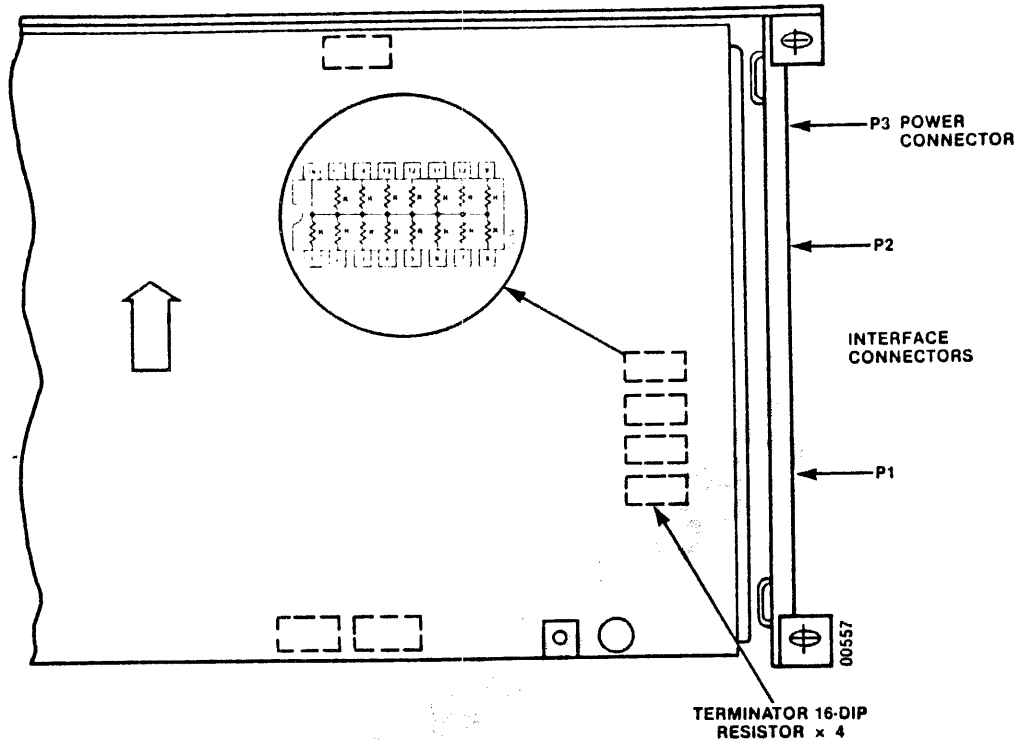

Figure 3-23 Model 31 Plus Drive Cable Terminators
3.4.2.9. Model 31 Plus Cable Termination: Verify that the A cable signals are terminated by four resistor networks (16-pin DIPs) on the interface board of the last disk drive only (refer to Figure 3-23).